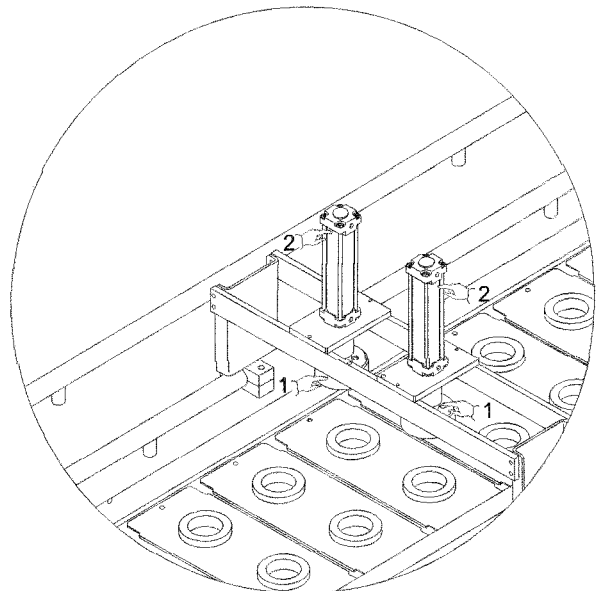

Fig. 6.11
The dosing station is activated by pressing “ice cream doser” buttons  (*Fig. 6.11*) which automatically close the bypass.
This station consists of crimping tools (*Part. 1, Fig. 6.11*) mounted on the structure and controlled by pneumatic actuators (*Part. 2, Fig. 6.11*).
The downward movement induced by the pneumatic actuators (*Part. 2, Fig. 6.11*) brings the crimping tools (*Part. 1, Fig. 6.11*) into contact with the cones and lids, allowing the lids to be fixed in position.
- Press the chocolate tank heater button A1 (Fig. 6.11).
- Position the bypass valves to feed the dosers by pressing button A2 (Fig. 6.11).
(Fig. 6.11). The lamellas will start moving in synchrony with the dosing.